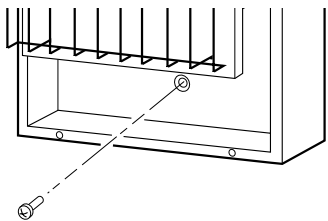

Figure 11 - Installing Bottom Mounting Screw
1. Locate bottom mounting hole. This hole is near bottom on back panel of heater (see Figure 11, page 8).
- Insert bottom anchor screw through back panel into bottom anchor or drilled hole (see Figure 11).